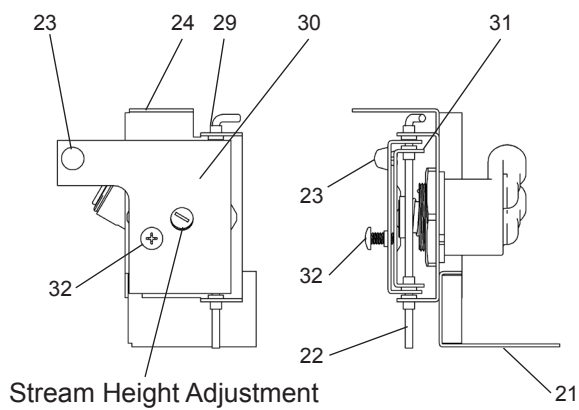
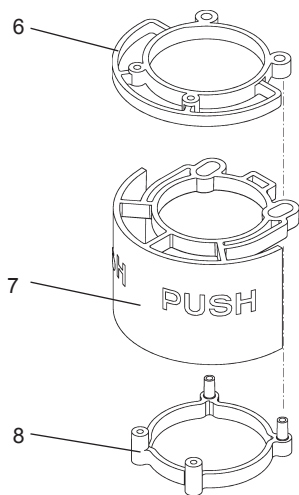

Figure 7
Figure 8
14. **Check stream height from bubbler.** Stream height is factory set for 35-40 PSI supply. If supply pressure varies greatly from this, remove items 6,7, and 8) (push arm and the bottom and the top actuator plates - (Fig. 8) by removing the screws holding assembly together and adjust the screw on the regulator (Item 11 - Figs. 7 & 9). Clockwise adjustment will raise stream height and counterclockwise movement will lower stream height. For best adjustment, stream height should be approximately 6-1/2" (38mm) above the bubbler guard. Reassemble the pushbar (Fig. 8).